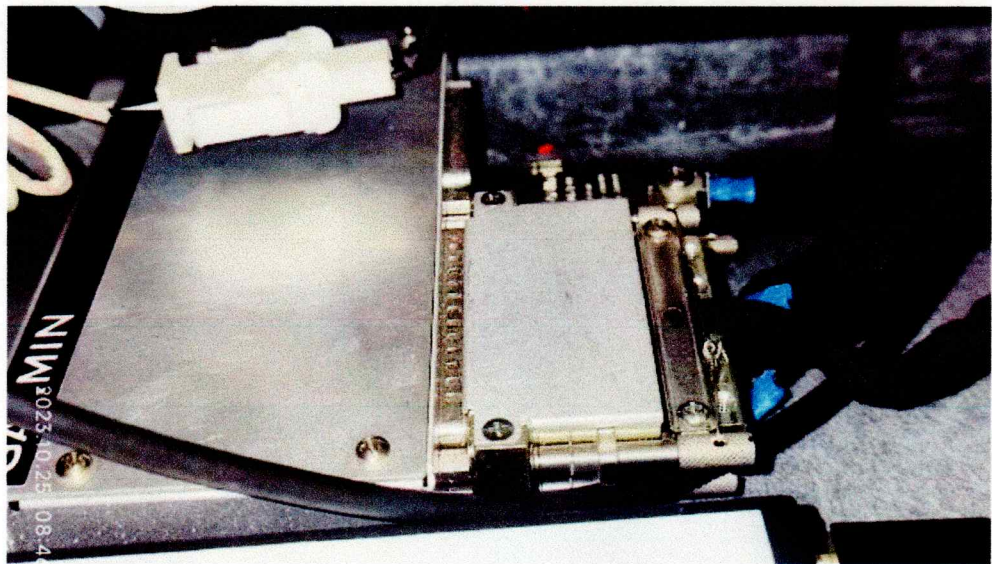

figure 13 Connector of the GEA24 P/J244
3. Modification of the GEA24 wiring (As shown in Figure 13)